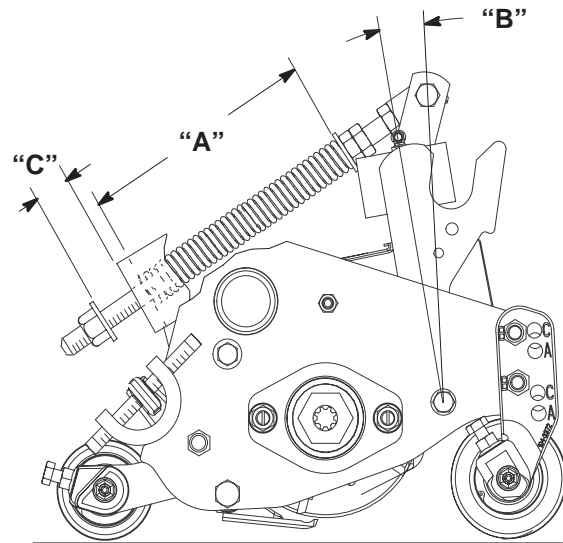

Figure 13
The turf compensation spring (Fig. 13), connecting carrier frame to cutting unit, controls the amount of fore-aft rotation available.
1. Tighten locknut on rear of spring rod until the gap (C) between rear of spring bracket and front of washer is 1.25 in. (32 mm) (Fig. 13).
2. Tighten hex nuts on front end of spring rod until the compressed length (A) of spring is 6.25 in. (328 mm) (Fig. 13).